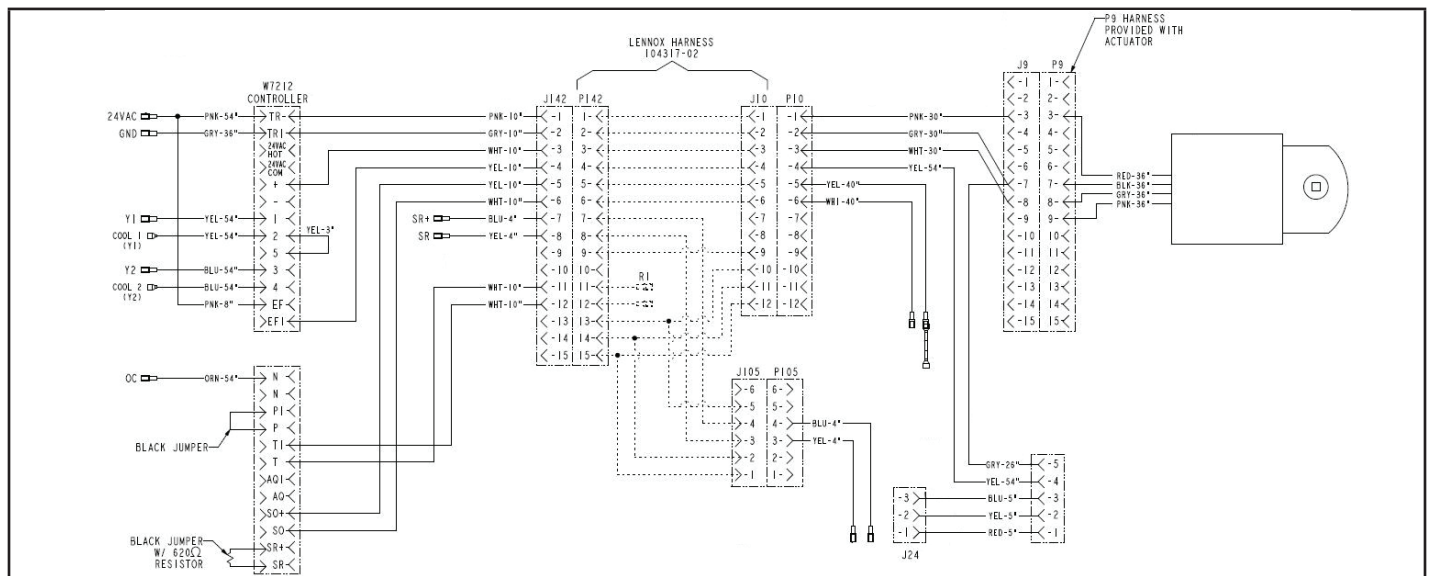

FIGURE 24
- 4 - Connect any optional sensors as shown in FIGURE 24.
- 5 - If optional power exhaust is used, wire according to instructions provided with power exhaust. See FIGURE 24.